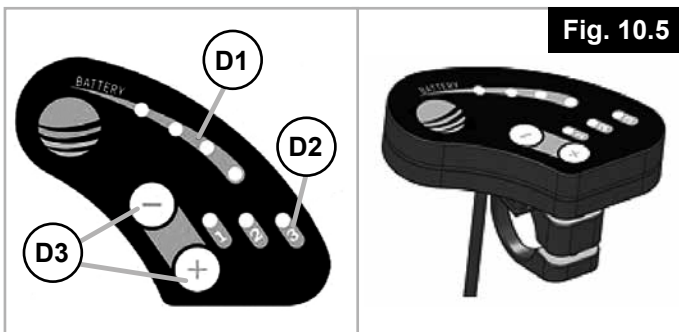

Fig. 10.5
10.5 Operating the LED display (Fig. 10.5)